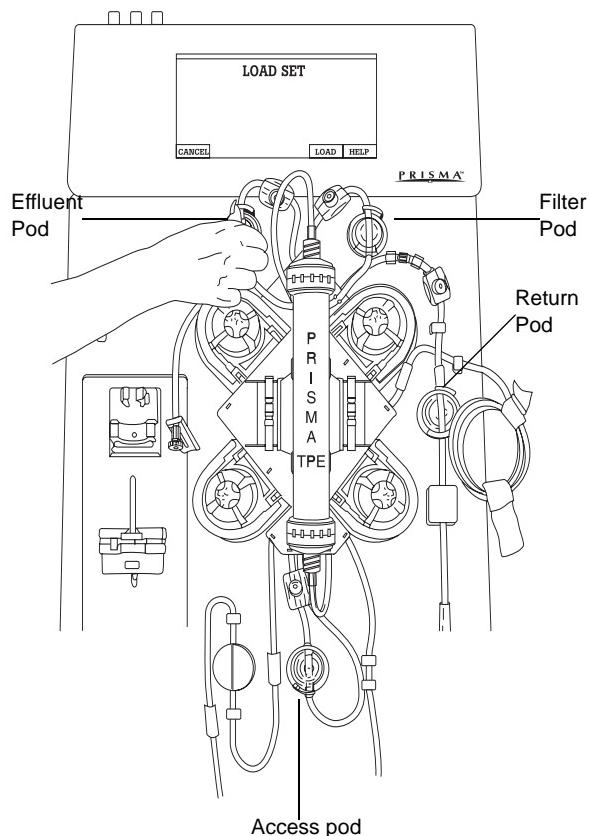

Figure 15. Positioning PRISMA TPE Set on the Control Unit
6. Position the PRISMA TPE Set onto the control unit. This includes (a) placing the cartridge of the set in the cartridge carrier, (b) routing lines of the set through tubing guides, air detector, and blood leak detector, (c) hanging the effluent bag on the effluent scale hook, and (d) attaching the pressure pods to the pressure sensor housings. See Figure 15.